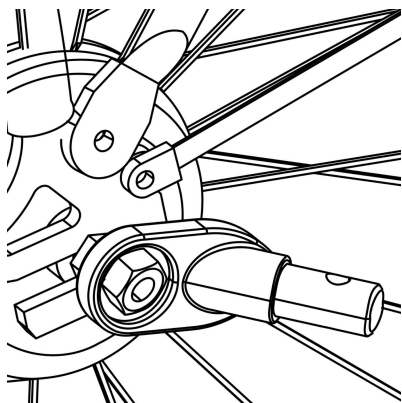

Figure 2
**2. Nutted Axle:** Unscrew the nut with washer from the left side of bike's rear axle. Install the hitch onto the axle and screw the nut back on with the washer(Figure 2).